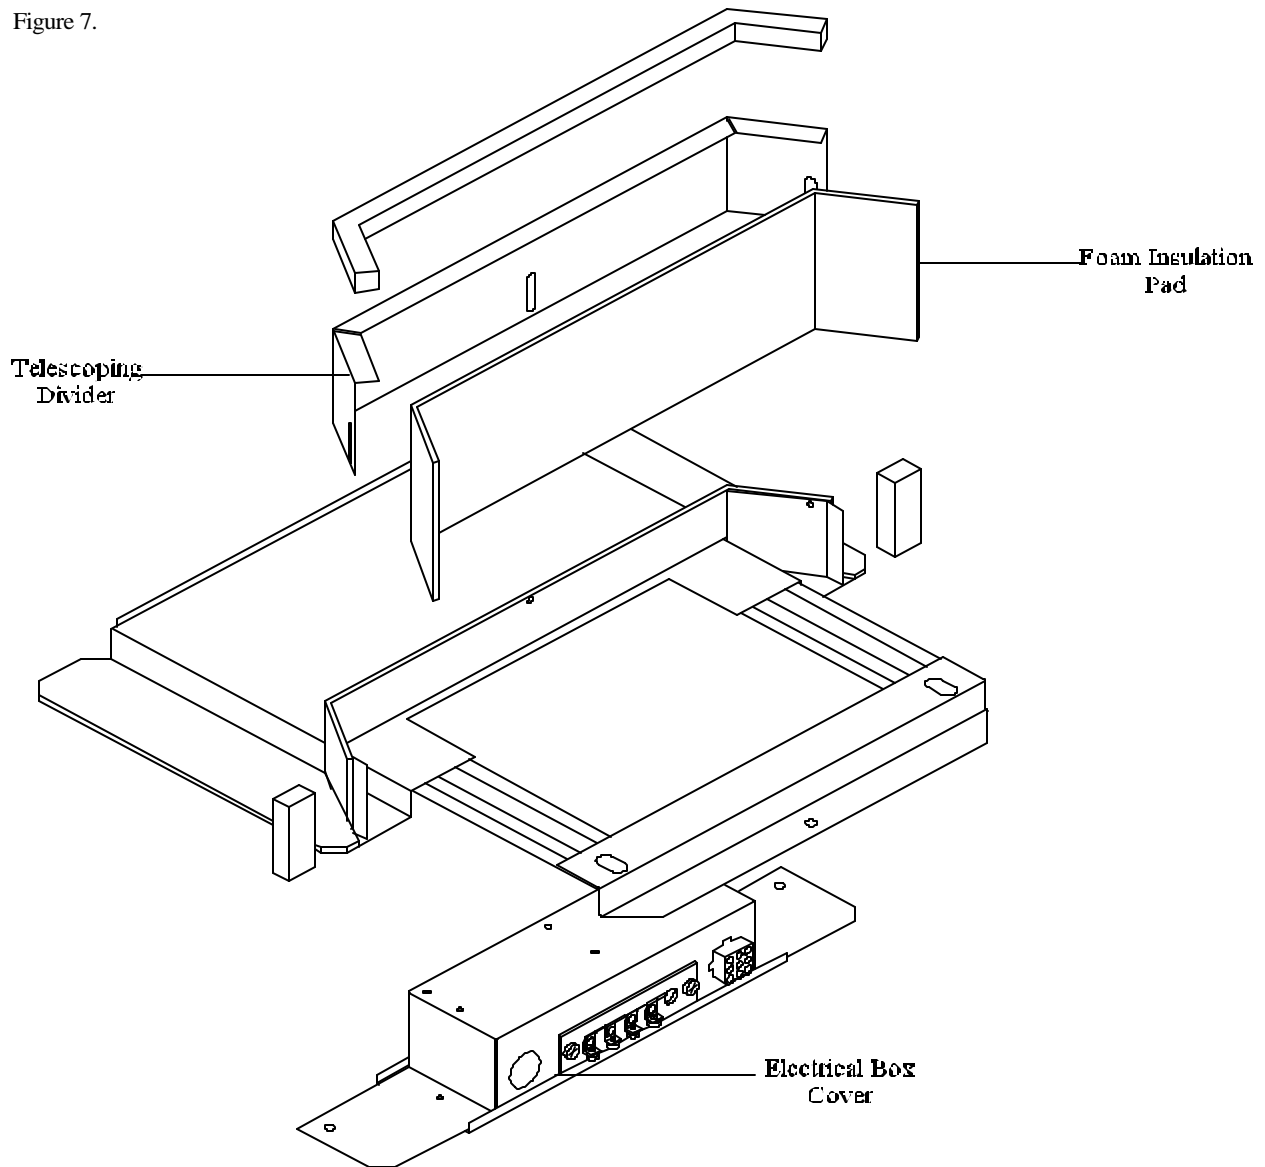

FIGURE 7
1. Locate foam topped, three-sided telescoping divider plate (Reference Figure 7). Insert telescoping divider plate between the back of the ceiling plenum electrical box and the vertical insulated divider directly behind it. For adjustment purposes, it may be necessary to loosen the sheet metal screws in the telescoping divider.
2. Remove ceiling plenum electrical box. Retain box and two screws for reattachment. See Figure 7.